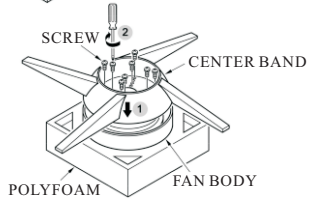

FIG.2
2. Install the center band onto motor with the provided screws. (See Fig.2)